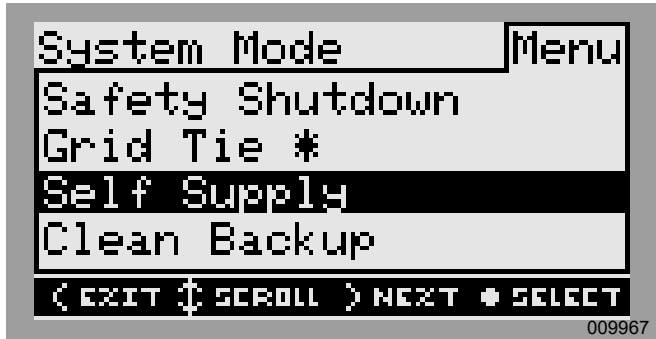

Figure 3-5. Selecting Operational Modes (3 of 4)
- See Figure 3-5. Use the up and down arrows to highlight the desired mode and press the center button to select it.